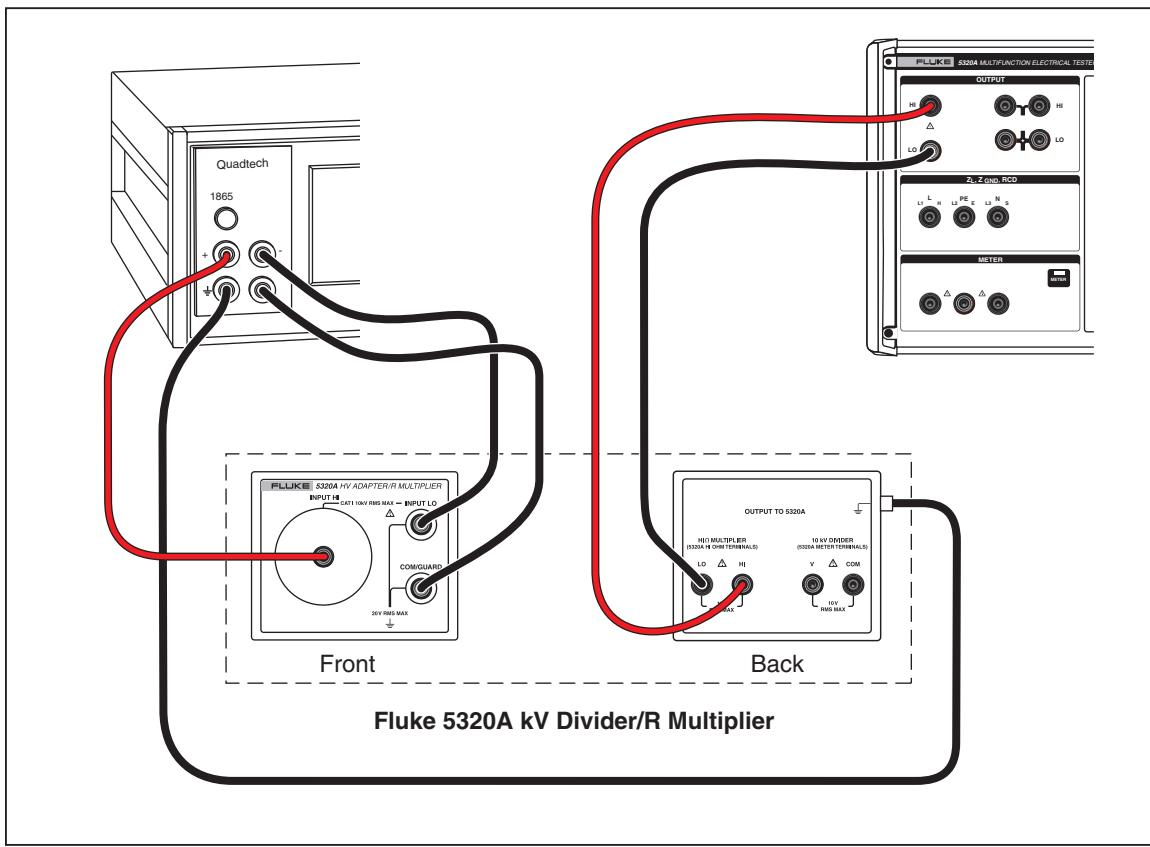

Figure 3-28. Resistance Multiplier Verification Connections
1. Connect the Calibrator to a megohmmeter through the HV Adapter using low-leakage, low-dielectric absorption test leads as shown in Figure 3-28. Note the polarity of the connections between the kV Divider/R Multiplier output to the Calibrator, HIΩ Multiplier to the Calibrator HIΩ, mA terminals are reversed.